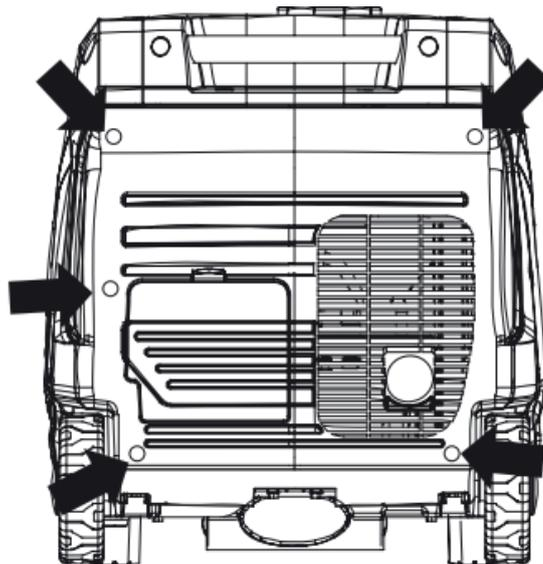

Figure 20: Remove Muffler Access Panel
3. Remove the screws holding the muffler cover in place (see Figure 20).